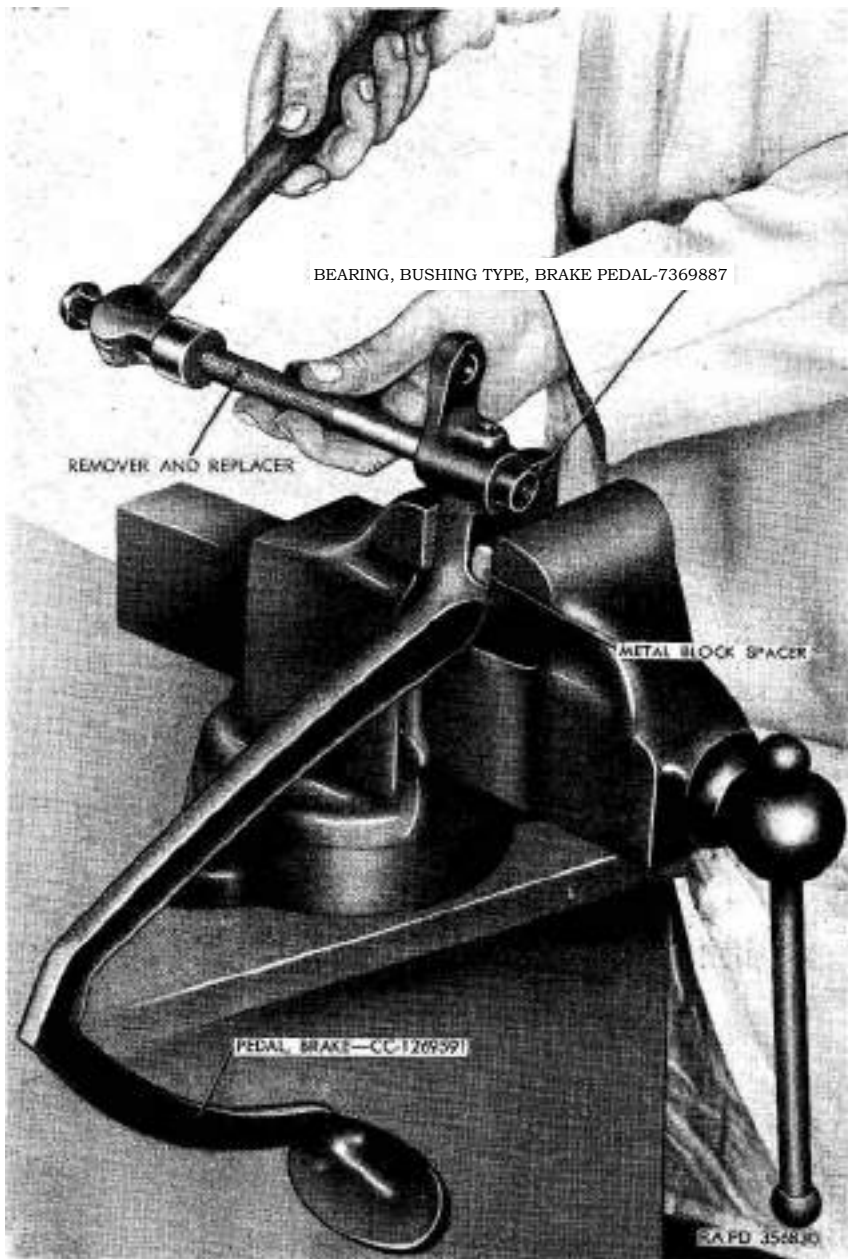

Figure 156. Removing brake pedal bushing-type bearing from brake pedal with a bushing remover and replacer.
- (1) Remove 45° $1/4-28\text{NF}$ lubricating fitting (B) from brake pedal.
- (2) If inspection (par. 177) reveals that replacement of brake pedal bushing-type bearing (L) is necessary, remove bearing from brake pedal (A) with a bushing remover and replacer (fig. 156).
Note. To prevent possible damage to brake pedal, a suitable metal block spacer (fig. 156) must be placed between pedal and vise jaw.